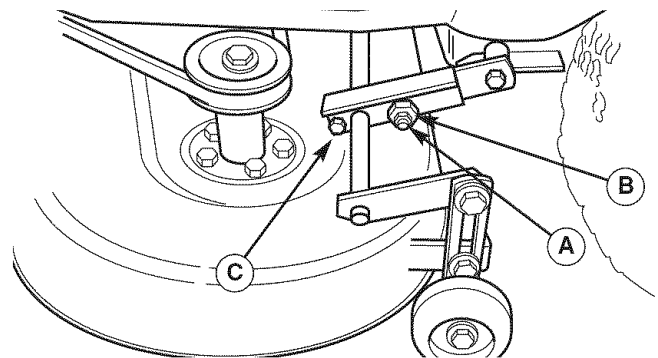

Figure 39. Side-to-Side Adjustment
6. See Figure 39. Loosen the outside nut (A) and taptite screw (C), then turn the eccentric nut (B) to raise or lower the left side of the deck. When the mower deck is level, hold the eccentric nut while tightening the outside nut. Tighten the taptite screw (C).